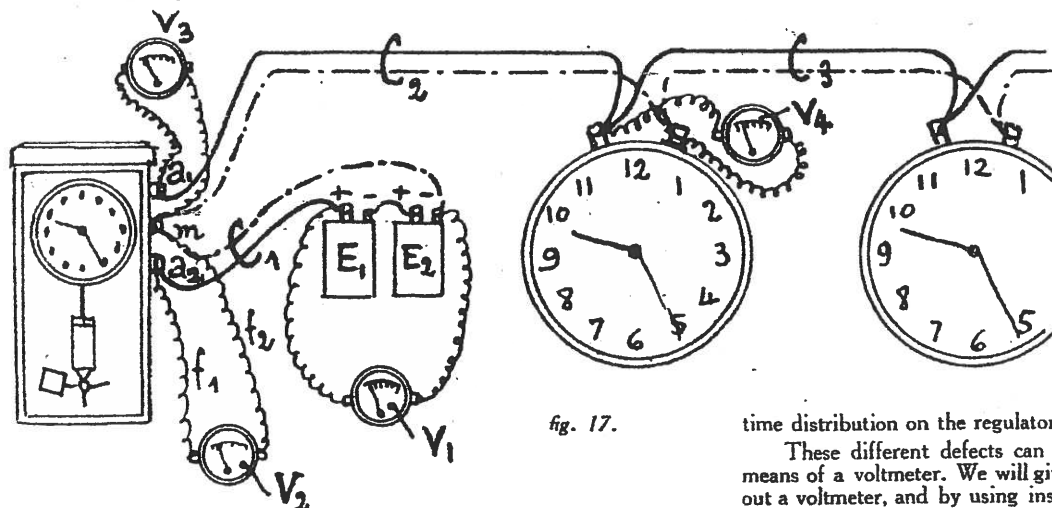

fig. 17.
**FINDING OUT OF THE DEFECTS.**—Take the case of an installation as shown on fig. 17. The bad working of the apparatus may be classified as follows:
For instance, the voltmeter V2 can be connected as shown on fig. 17. The wire *f2* connects the terminal *m* of the regulator with the negative pole of the voltmeter, the terminal *a2* of the regulator with the positive pole of the voltmeter. The latter should register a voltage of over 2 volts. If there is no deviation, we may conclude that the battery is exhausted or that the cable C1 has been accidentally cut.